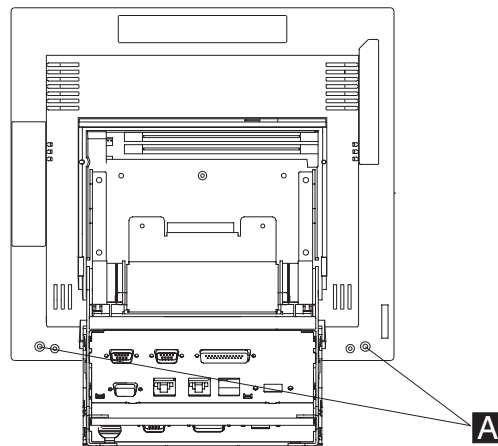

Figure 66. Removing the two screws securing the non-touch screen
4. Tilt the display to its vertical position and remove the two screws **A** securing the bottom of the screen to the display as shown in Figure 66. (The screws are recessed, in the lowest outboard position at the bottom corners of the rear of the display.)